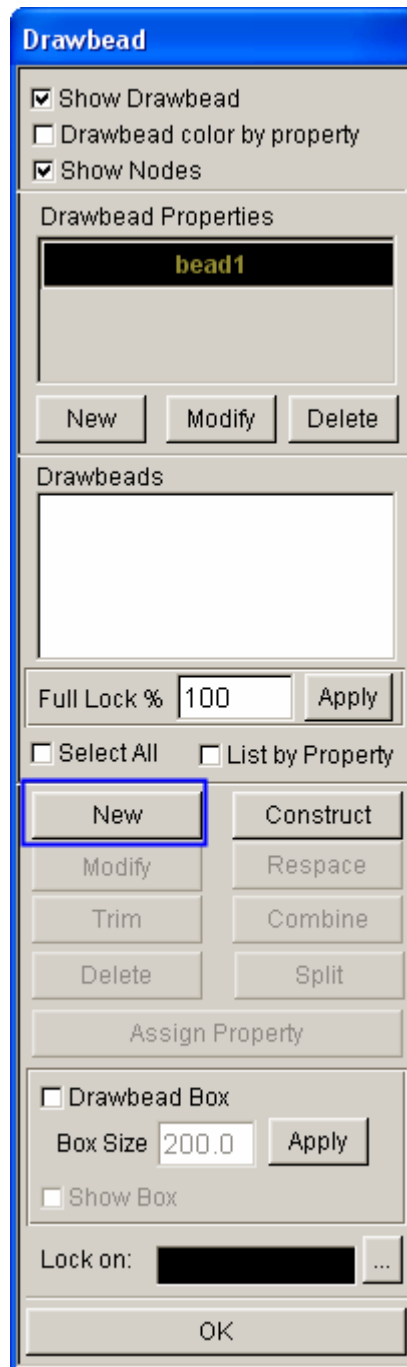

Figure 3.54: Define Drawbead dialog box
- 2) Then press New button as shown figure 3.54 to create new draw beads.